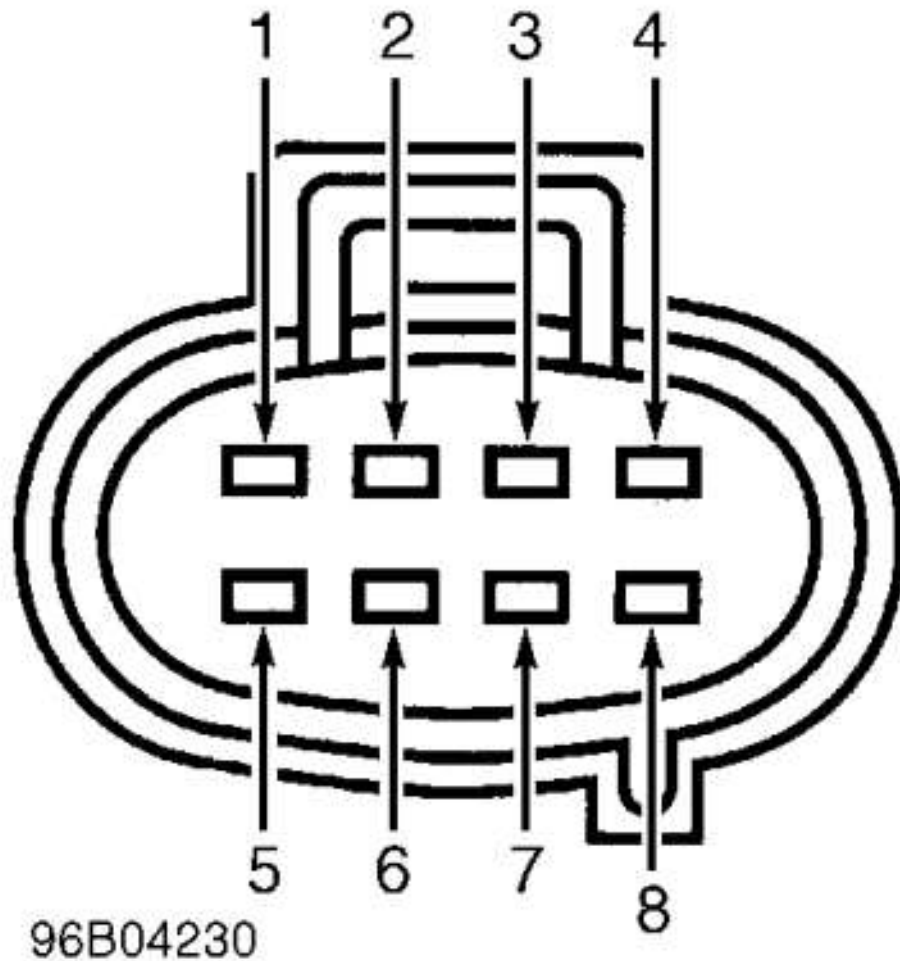

Fig. 8: Identifying TR Sensor Harness Connector
2) Check Electrical Signal Operation Ensure ignition is off. Disconnect TR sensor connector, and inspect it for damaged pins, corrosion and loose wires. Repair as necessary. Turn ignition on. Measure voltage between harness connector terminals No. 6 and 7. See **Fig. 8**. If voltage is 4.75-5.25 volts, go to step 5). If voltage is not within specification, go to next step.
3) Check Continuity Of TR Sensor Harness Circuits Turn ignition off. Disconnect PCM connector, and inspect it for damaged pins, corrosion and loose wires. Repair as necessary. Install breakout box, leaving PCM disconnected. On 1995 Explorer models, measure and record resistance between breakout box test pin terminal No. 30 and TR sensor harness connector terminal No. 7. Measure and record resistance between breakout box test pin terminal No. 46 and TR sensor harness connector terminal No. 6. See **Fig. 8**. On all other models, measure and record resistance between breakout box test pin terminal No. 64 and TR sensor harness connector terminal No. 7. Measure and record resistance between breakout box test pin terminal No. 91 and TR sensor harness connector terminal No. 6. If each resistance is less than 5 ohms, go to next step. If any resistance is more than 5 ohms,
6) Check TR Sensor Park/Neutral Circuit Check park/neutral circuit in all gear positions. See tester instructions. Connect ohmmeter between terminals No. 1 and 4. See **Fig. 8**. Check resistances in all positions. Resistance should be less than 5 ohms in park/neutral and 100 k/ohms or more in all other positions. If TR sensor does not operate within specification, replace sensor. Connect all components. Erase all trouble codes. See CLEARING CODES. Repeat QUICK TEST. If sensor operates within specification, go to next step.
7) Check TR Sensor Reverse/Backup Light Circuit Check reverse/backup light circuit in all gear positions. See tester instructions. Connect ohmmeter between terminals No. 2 and 3. See **Fig. 8**. Check resistances in all positions. Resistance should be less than 5 ohms in reverse and 100 k/ohms or more in all other positions. If TR sensor does not operate within specification, replace sensor. Connect all components. Erase all trouble codes. See CLEARING CODES. Repeat QUICK TEST. If sensor operates within specification, go to next step.
gear positions. See tester instructions. Connect ohmmeter between terminals No. 5 and 8. See **Fig. 8**. Check resistances in all positions. Resistance should be less than 5 ohms in neutral and 100 k/ohms or more in all other positions. If TR sensor does not operate within specification, replace sensor. Connect all components. Erase all trouble codes. See CLEARING CODES. Repeat QUICK TEST. If sensor operates within specification, see TROUBLE SHOOTING in **AUTO TRANS OVERHAUL - FORD 4R44E & 4R55E** article for non-electronic symptom diagnostics.